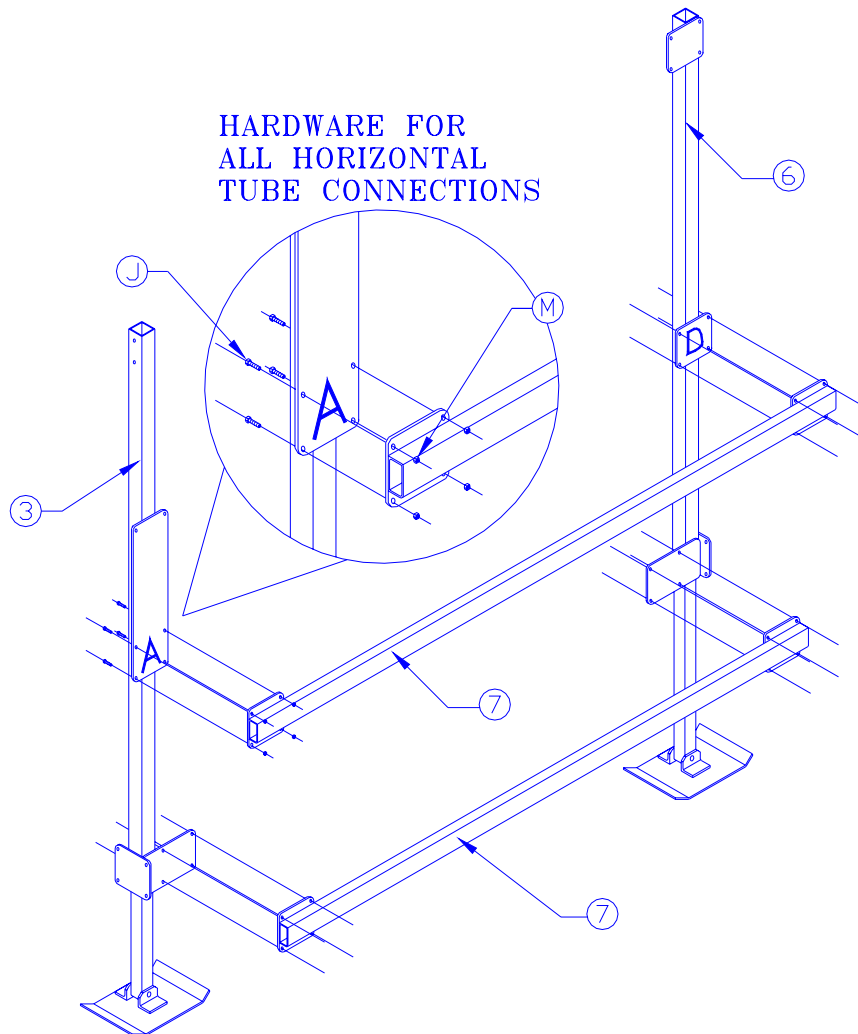

Figure 3-4
1. Refer to Figure 3-4. Fasten a pair of short horizontal tubes between vertical legs A and D with hardware shown. DO NOT TIGHTEN.
5. Fasten a long horizontal tube across each end to connect the two sides using hardware shown in Figure 3-4. **DO NOT TIGHTEN.**